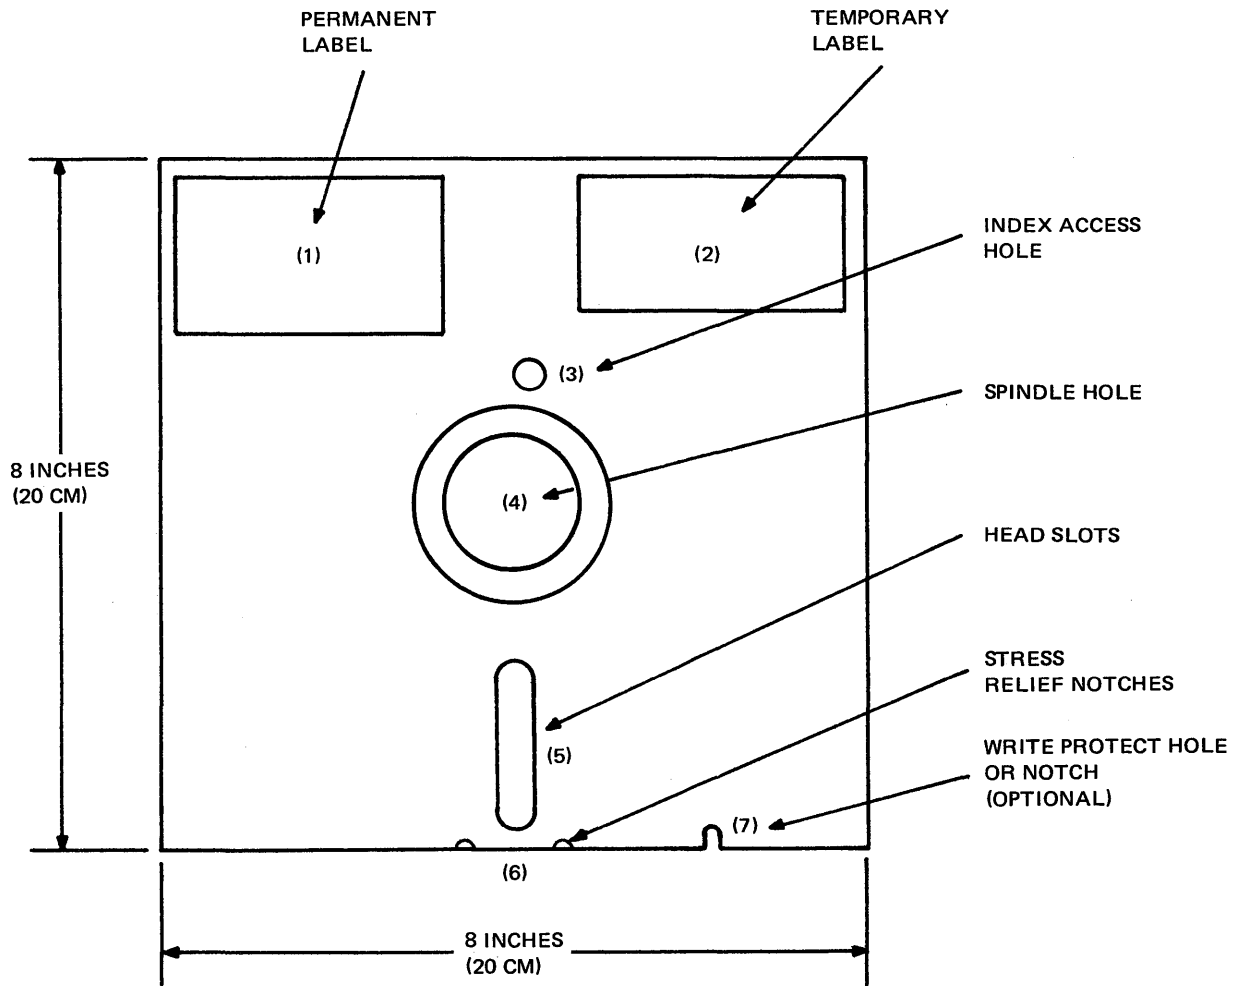

Figure 2-1. Dimensions and Features
Figure 2-1 shows the dimensions and features of a flexible diskette for use on SPERRY UNIVAC equipment. The following is a brief description of these features.
A temporary adhesive label may be attached to the diskette by the operator, as shown in Figure 2-1, to provide such information as:
3. The head located parallel to the head slot opening, as shown in Figure 2-1.